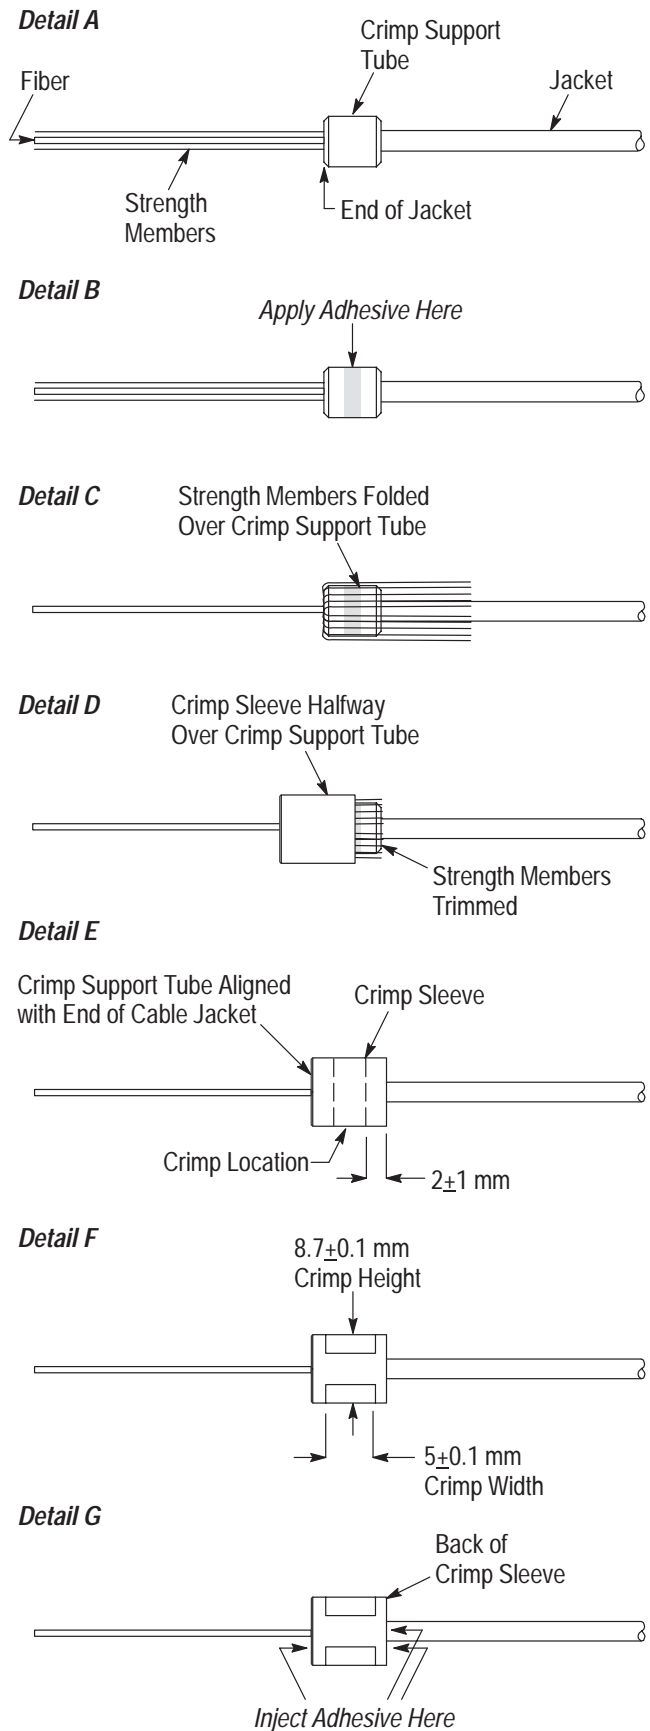

Figure 4
1. Slide the crimp support tube forward until it aligns with the cable jacket. See Figure 4, Detail A.
2. Apply 2 or 3 drops of LOCTITE Adhesive 480 around the middle of the crimp support tube. Refer to Figure 4, Detail B.
3. Fold the strength members back over the crimp support tube allowing them to stick to the adhesive. See Figure 4, Detail C.
4. Slide the crimp sleeve (large diameter end first) over the fiber and approximately halfway over the crimp support tube. Using the shears, trim the strength members flush with edge of the crimp support tube. See Figure 4, Detail D.
5. Continue sliding the crimp sleeve onto the crimp support tube until it stops. *Make sure* that the crimp support tube stays aligned with the end of the cable jacket. See Figure 4, Detail E.
6. Place the crimp sleeve in the 8.6-mm hex nest of the hand tool, and crimp the crimp sleeve onto the crimp support tube. Make sure to position the crimp sleeve in the hex nest so that the crimp will locate from the back of the crimp sleeve to within the dimension shown in Figure 4, Detail E.
7. Using the micrometer or caliper, measure the crimp sleeve across the flats of the hex crimp to make sure that it conforms to the crimp height and crimp width shown in Figure 4, Detail F. If necessary, crimp again, and re-measure the crimp.
8. From the back of the crimp sleeve, inject LOCTITE Adhesive 480 between the crimp sleeve and crimp support tube. Then from the front and back of the crimp sleeve, inject the adhesive between the crimp support tube and cable jacket. See Figure 4, Detail G. Remove any excess adhesive from the outside and back edge of the crimp sleeve.